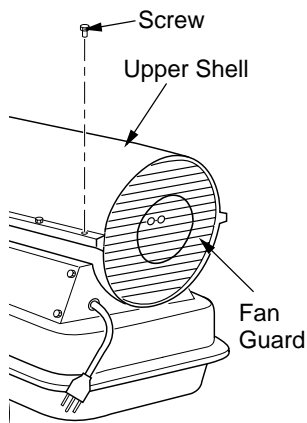
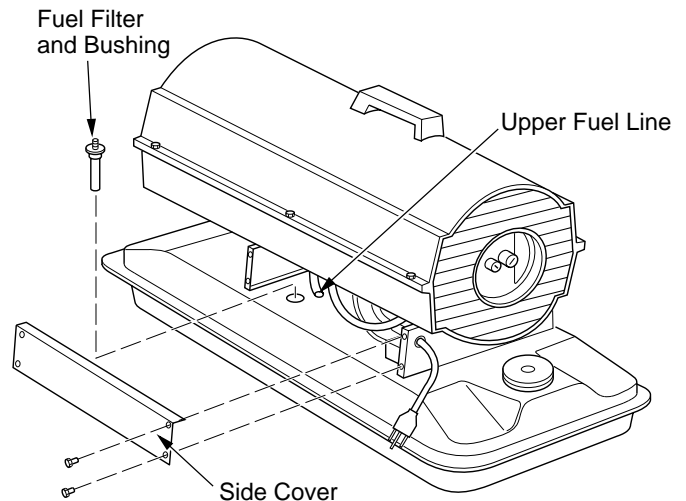
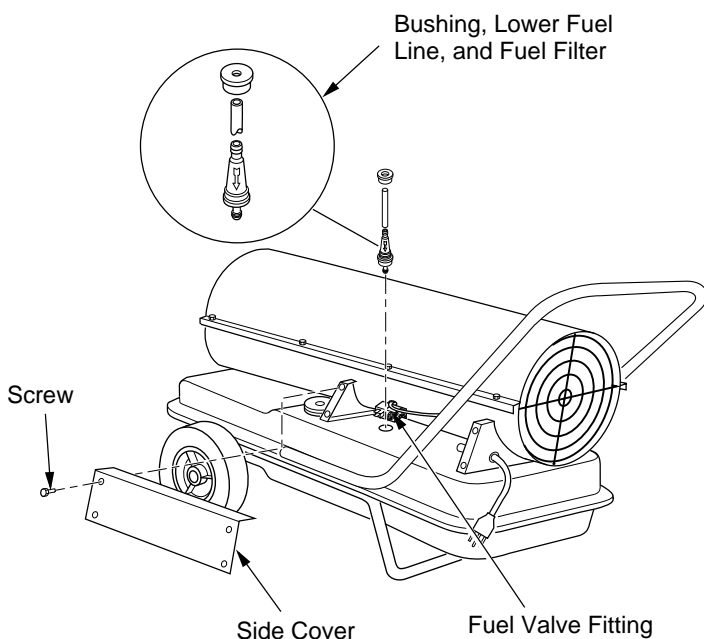

Figure 8 - Upper Shell Removal, 110/115/150/155/165/200 Models Only
Figure 15 - Fuel Filter Removal, 40/55/60/70 Models
Figure 17 - Fuel Filter Removal, 200 Model Only (Model with Fuel Valve Assembly Shown)
3. Pull upper fuel line off fuel filter neck (see Figure 15 or 16).
2. Remove side cover (see Figure 17).
3. Pull lower fuel line off the fuel valve fitting (see Figure 17).
1. Remove side cover (see Figure 17), fan guard, and upper shell (see Figure 8, page 8) screws using 5/16" nut-driver.
3. Remove 4 side cover screws with a 5/16" nut driver. Remove side cover (see Figures 15 or 16, page 9 or Figure 17, page 10).
12. Replace side cover (see Figures 15 or 16, page 9 or Figure 17, page 9).
2. Remove side cover screws using 5/16" nut driver (see Figure 15 or 16, page 9 or Figure 17, page 10).